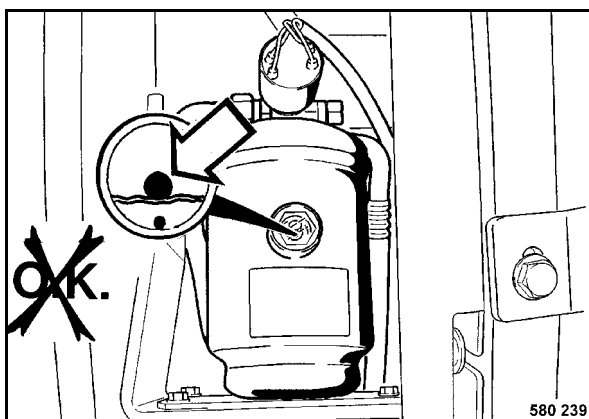

Fig. 119
- If the white float (Fig. 119) inside the inspection glass of the drier/collector unit floats at the bottom, inform the service department.